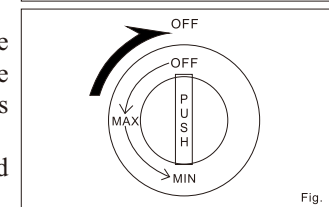

Fig. 5
- After use, turn the ignition knob back to OFF position and make sure the burner is put out. (Fig. 5)